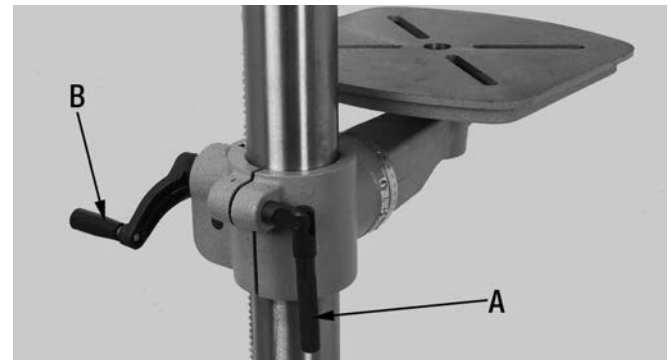

FIGURE 14
- 1) Loosen table lock handle (A) Fig.14.
- 2) Turn the table height adjustment handle (B) until the table is at the desired height.
- 3) Retighten table lock handle (A).